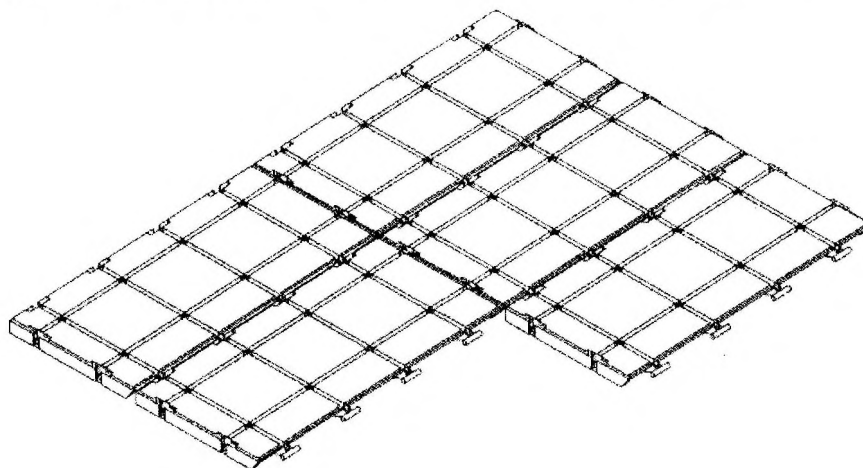

Figure 58: Installation of hard flooring
61. Place the hard flooring (Fig 58) over the groundsheet (Item 3 from Fig 53) (if used). Do not place hard flooring on hard surfaces. Flooring clips together in sections. Fold flooring back on its self to dismantle.